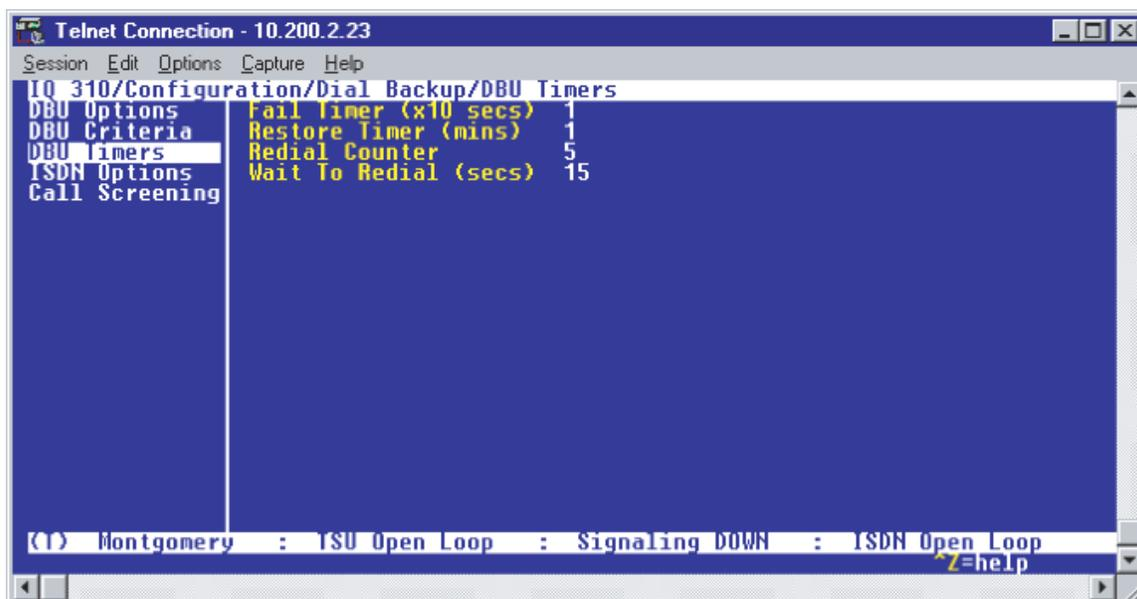

Figure 39. DBU Timers Menu
1. Press the left arrow key once and the down arrow key once to select **DBU TIMERS**. The menu screen shown in Figure 39 is displayed. The default values for the parameters on this screen are shown.